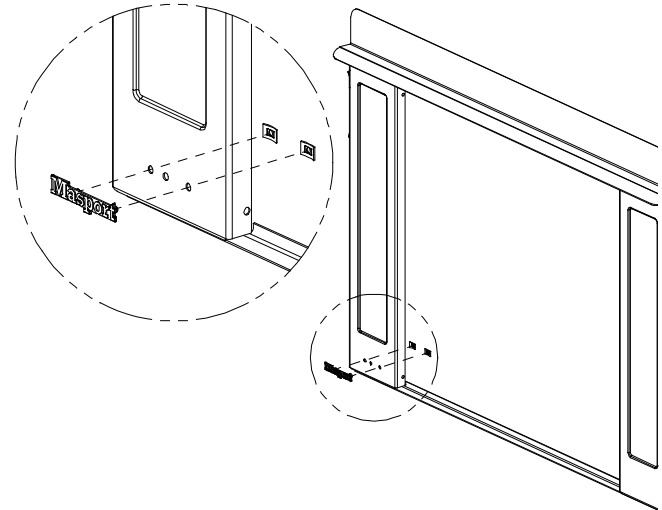

Fig 2
- 4) If not already fitted, push the Masport logo badge into the holes in the bottom left corner of the fascia and attach it using the clips provided. See Fig 2.
thick wiring loom) and connect them to the fan switch (i.e. the 3 terminal bottom switch) noting the following positions. Connect the brown wire to the middle terminal, connect the red wire to the top terminal and connect the orange wire to the bottom terminal. Refer to 240V wiring diagram on page 4. And fig 2, (bevelled fascia).